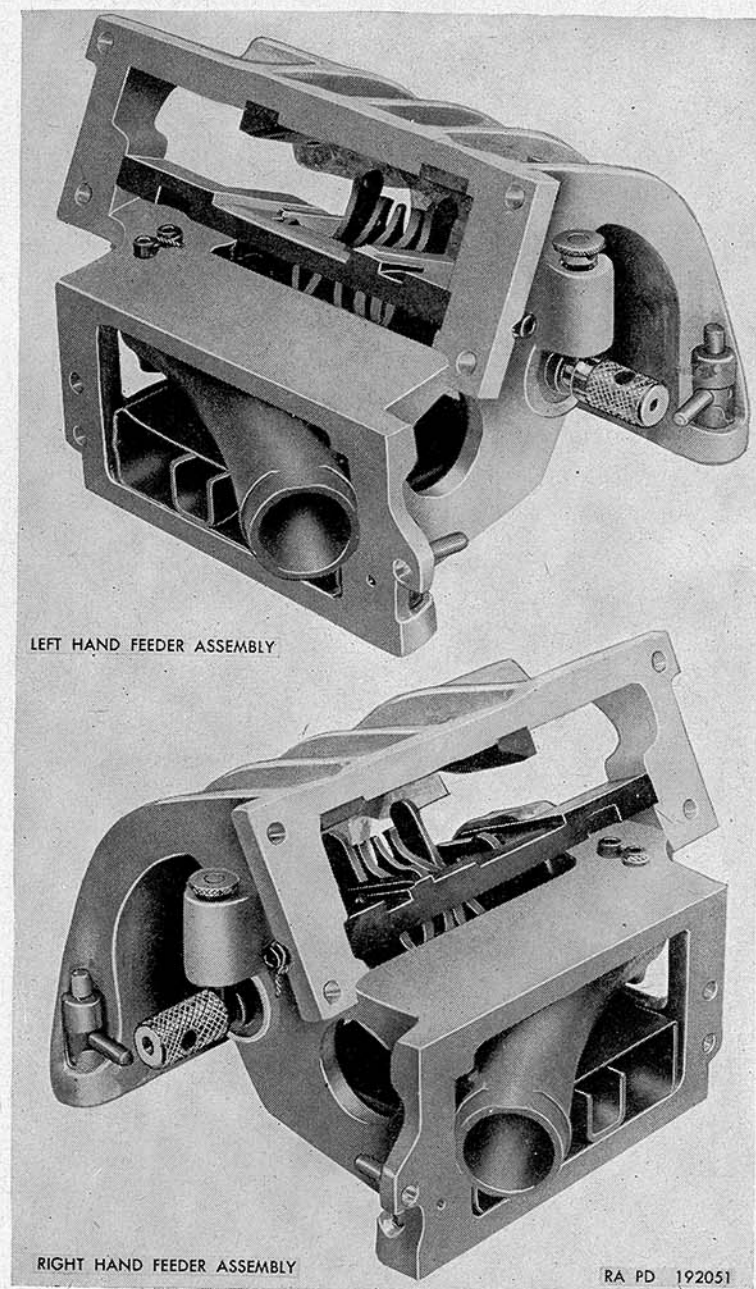

Figure 11. Comparison of left-hand and right-hand feeder assemblies.
g. Feeder Assembly. The feeder assembly for left-hand feed and for right-hand feed are completely different units (fig. 11). They are issued as left-hand and right-hand units.